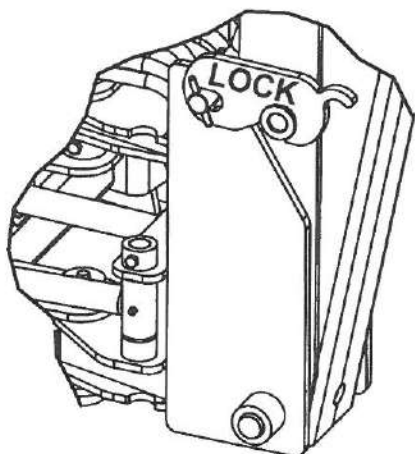

Figure 5
5. Raise the boom to take the tension off of the boom lock so you can release the lock (Figure 5).